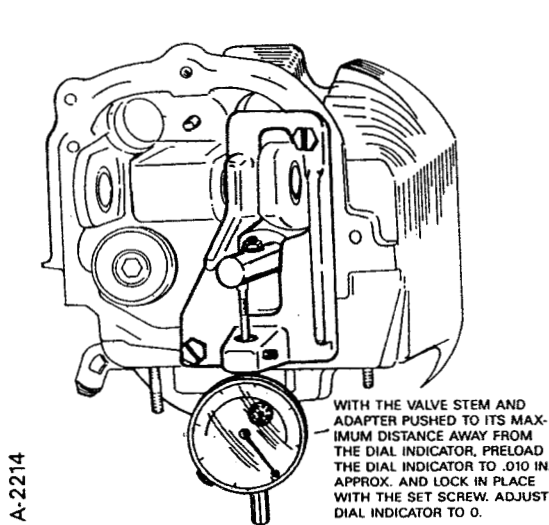

Figure 9. Dial Indicator in Position to Check Valve Guide Clearance
2. Insert the blade of a screwdriver in the area between the valve spring and fixture and push the valve and adapter post away from the dial indicator as shown in Figure 9.
4. Adjust the dial of the indicator to read "0" (zero) as shown in Figure 9.